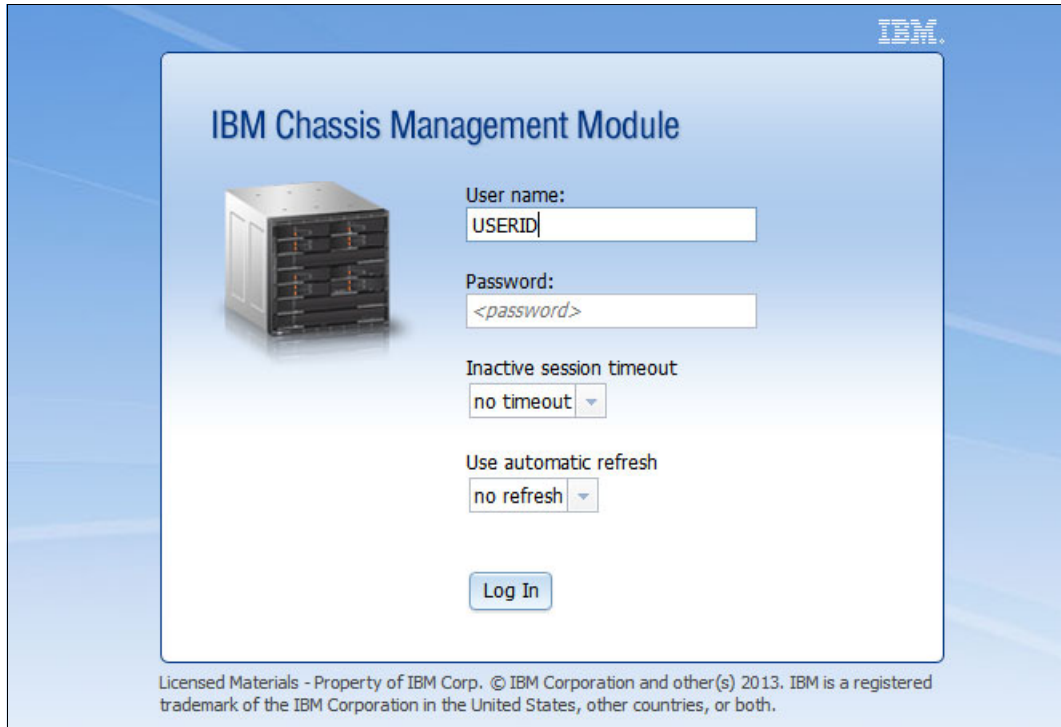

Figure 4-2 CMM login
3. Log in to the CMM by using the default credentials: USERID/PASSWORD. Click **Log In** as shown in Figure 4-2.